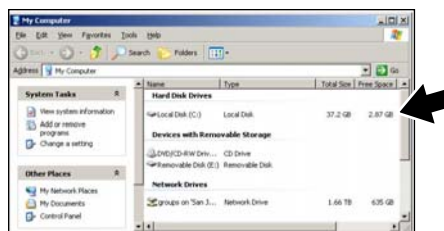

Figure 3-2 Typical PC hard drive free space details
2. Select **View > Details** (Figure 3-2).